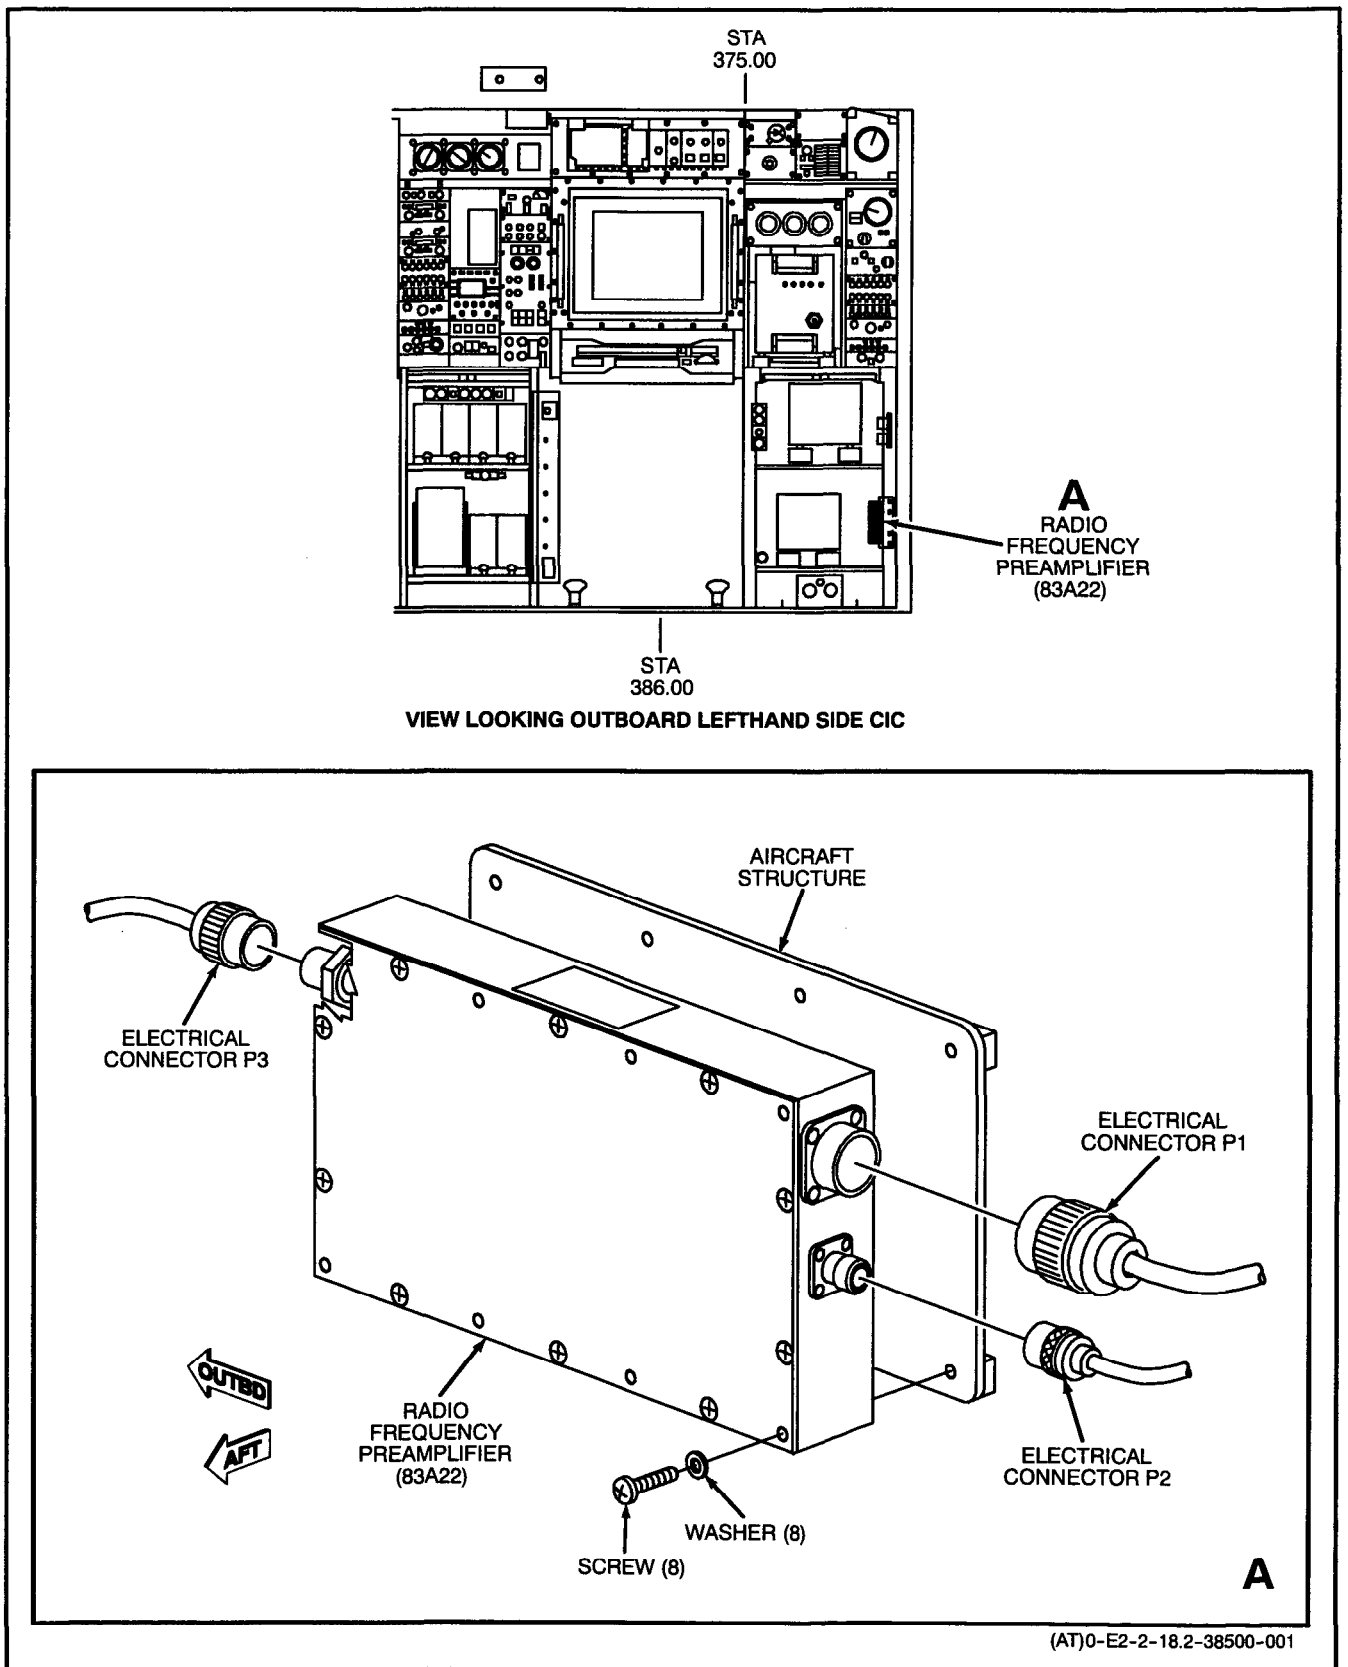

Figure 1. Removal and Installation of Radio Frequency Preamp (83A22)
**1. REMOVAL.** (Figure 1.)
**2. INSTALLATION.** (Figure 1.)
d. Remove caps and connect electrical connectors P1, P2, and P3 to receptacles J1, J2, and J3 on Radio Frequency Preamplicifier (83A22). Remove tags. (QA)
f. Perform operational check of Satellite Communications (SATCOM) System (NAVAIR 01-E2AAA-2-17.1.1, WP021 03). (QA)